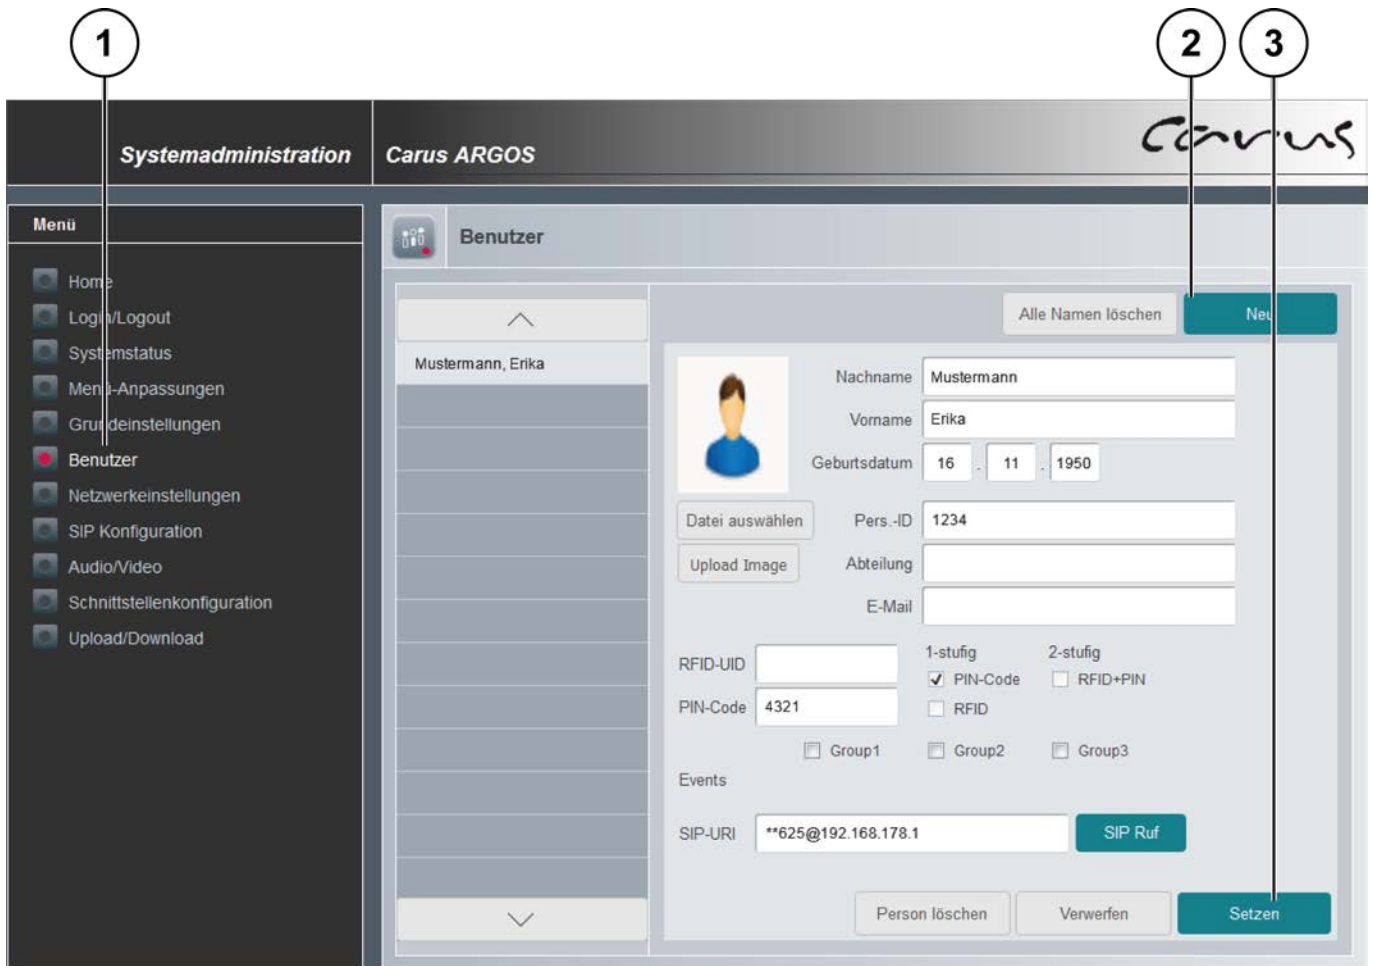

Fig. 25: Add user
- ▶ Put in the user data into the text fields (Fig. 25).